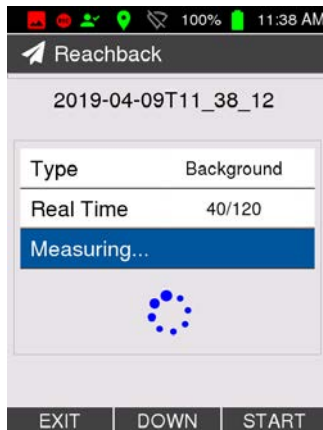

Figure 88: Collecting reachback data
4. Start the measurement. The elapsed time is shown during the measurement (Fig. 88, p. 87).